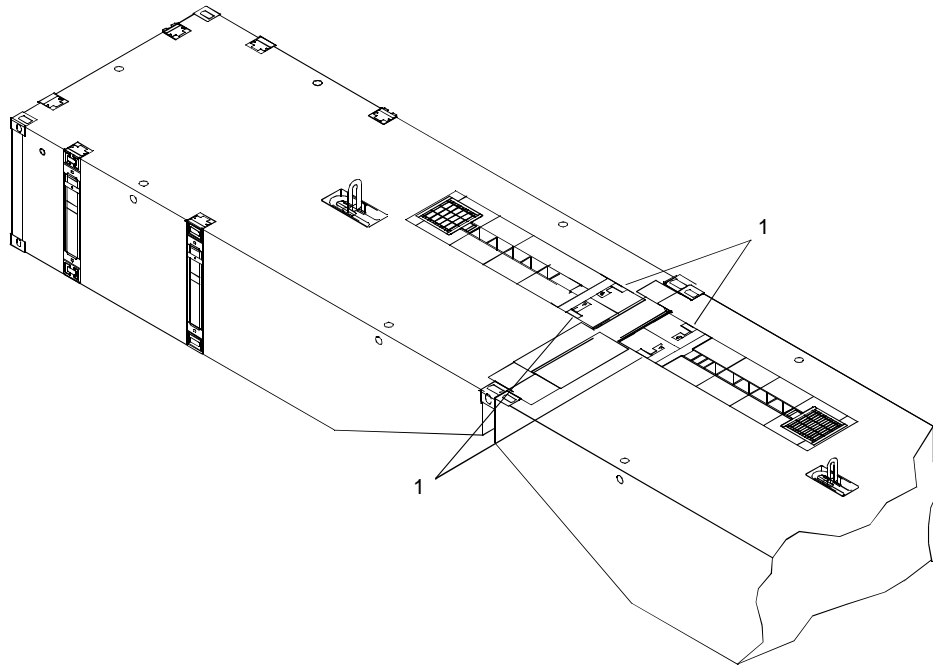

Figure 22. Connecting Segments (2)
6. Push chute bolts (figure 22, item 1) to LOCKED position and rotate to CLOSED position.